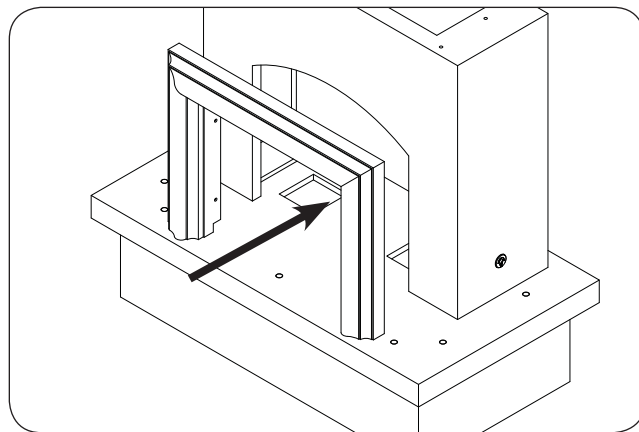

Fig. 16-2 Mount body moulding (if applicable)
1. Locate the moulding for the fireplace opening. Carefully mount the moulding into the opening. See Fig. 16-2.